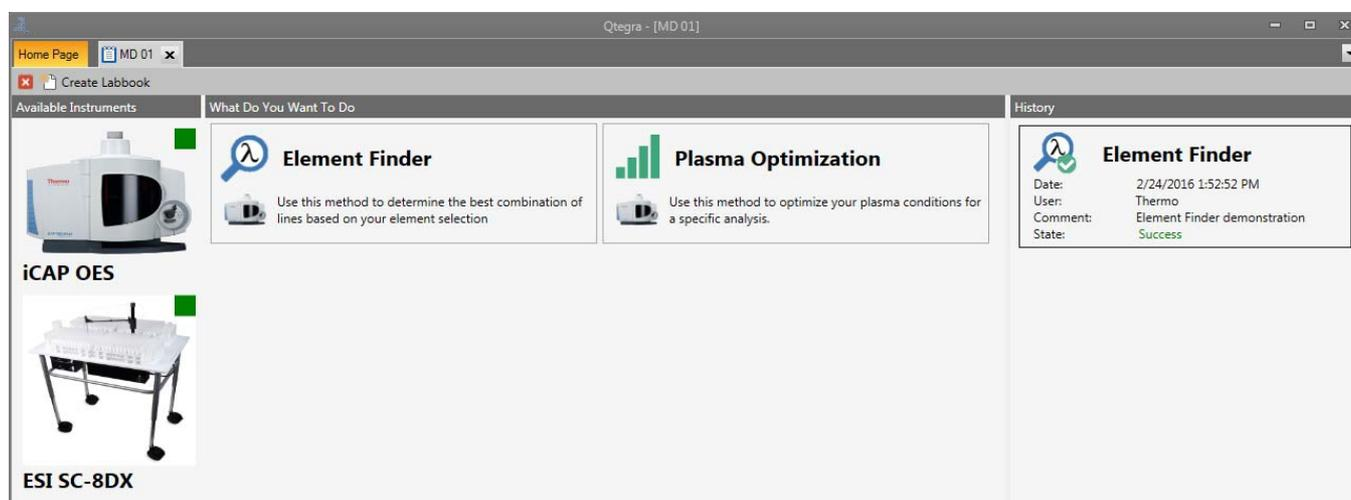

Figure 7-10. Method Development page with completed Element Finder result in the History pane
3. The initial page is shown with the tiles to run the Element Finder or to perform the Plasma Optimization. The completed Element Finder routine is saved to the History entries, see Figure 7-10.
1. From the initial view of your method (see Figure 7-10), hover over the Element Finder method in the History pane to show additional buttons.